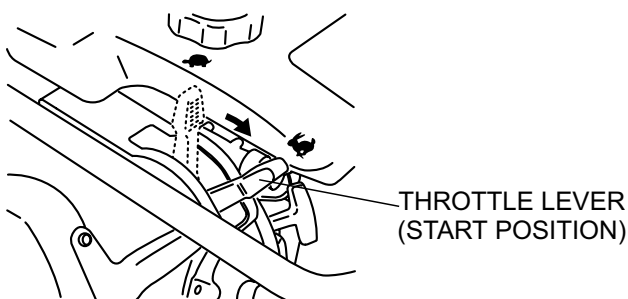

Figure 14. Throttle Lever (Start Position)
1. To start the rammer tamping action, move the throttle lever (Figure 14) **quickly** from **IDLE** (☞) to the **START** (☛) position. **DO NOT** move the throttle lever slowly as this may cause damage to the clutch or spring.